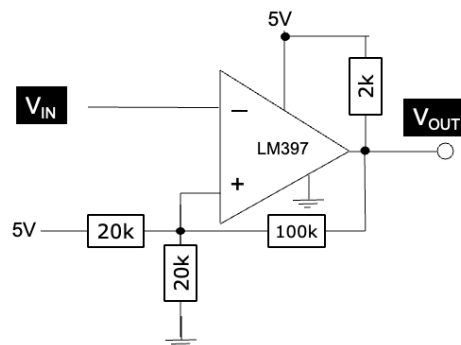

Figure 2.2
d) *Figure 2.2* shows a LM397 configure with hysteresis. What are the switching threshold voltages for this comparator circuit?